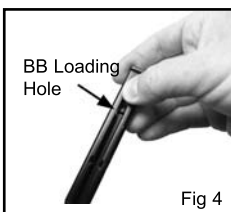

Fig 4
- Pull and hold down the BB follower tab (fig. 4). Pull BB follower tab down until it locks in place.
- Insert up to 18 BBs into the BB loading hole on the front of the magazine (Fig. 4).